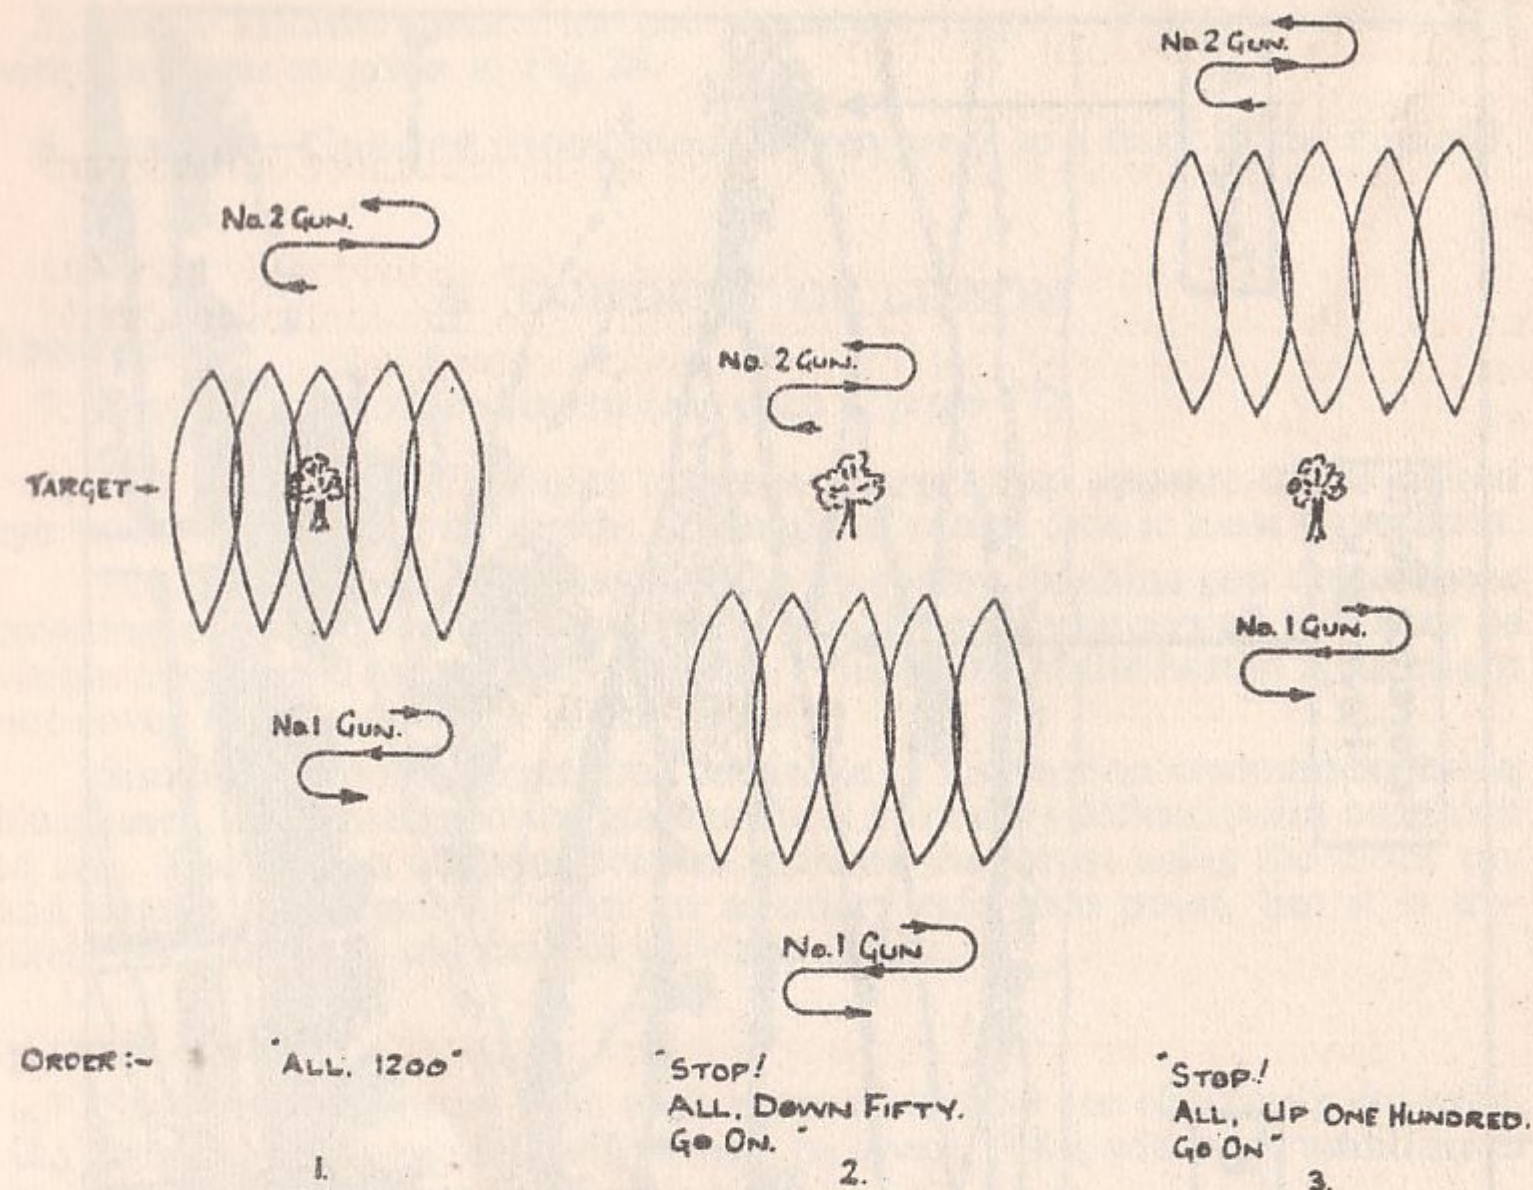

FIG 20
5. Select suitable targets on the landscape target. Prepare blackboard with diagrams as given in Fig 20.
Illustrate on the blackboard a section engaging a point target at 1200 yards (key ranging). (*See* Fig 20).